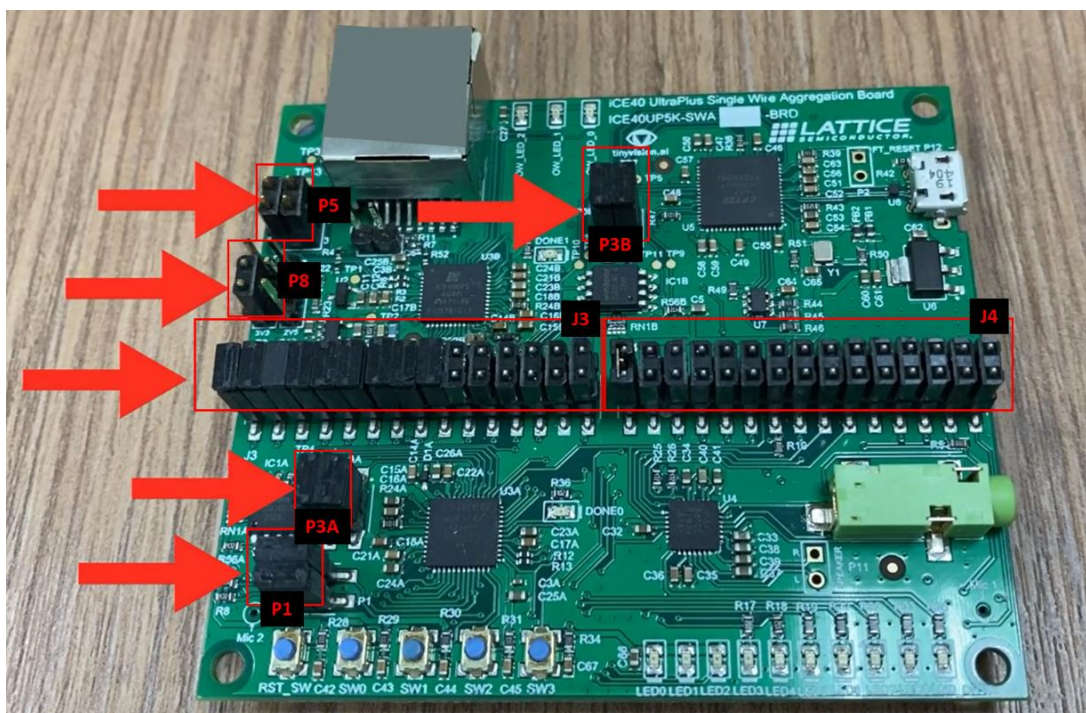

Figure 8.7. SWA Demo Port Connection
1. Ensure Jumper Connection on the SWA Board as shown in Figure 8.7.